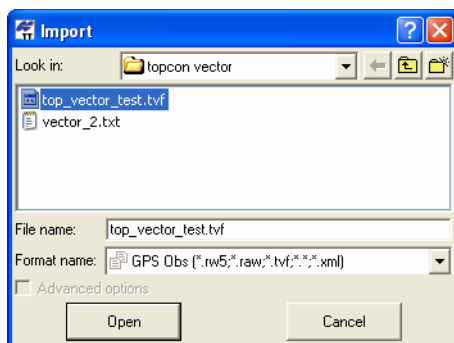

Figure 3-13. Import GPS Obs File
- Click **Open** to import the file (Figure 3-13).